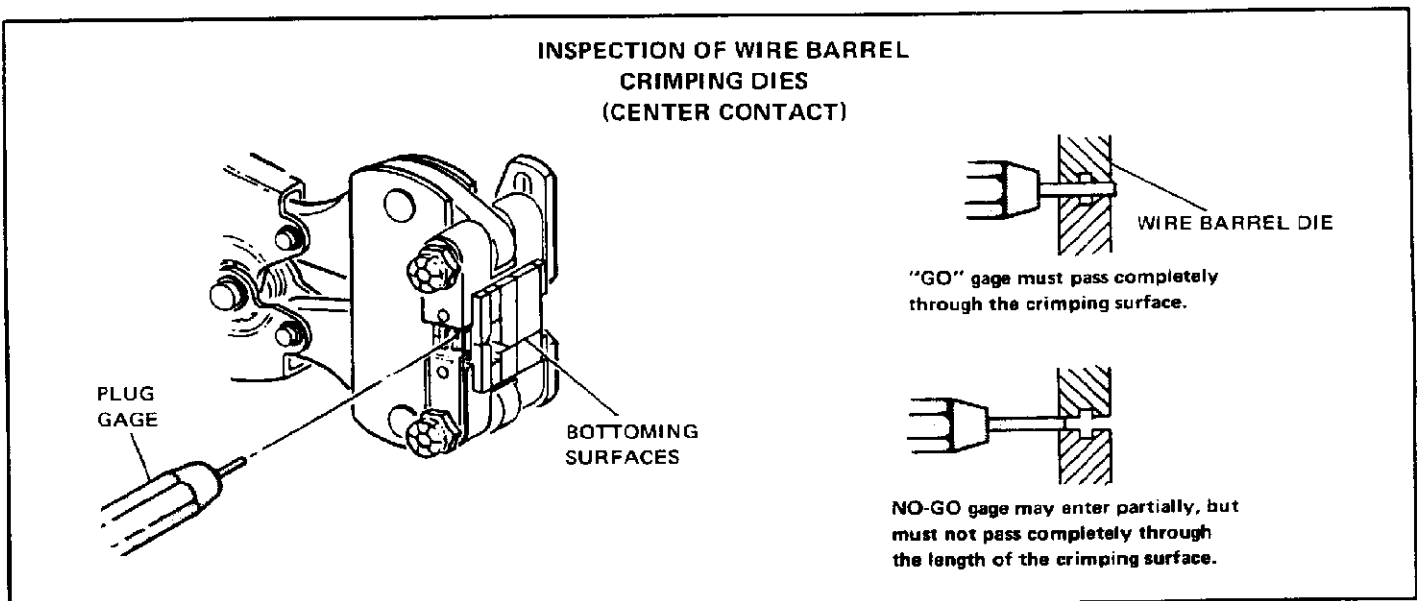

Fig. 7
- With crimping jaws bottomed, check the barrel crimp die closure using the proper plug gage. Hold gage in straight alignment with the tool and carefully try to insert, without forcing, the GO element, and then the NO-GO element. See Figure 7. The GO element must pass completely through the barrel crimp die closure.